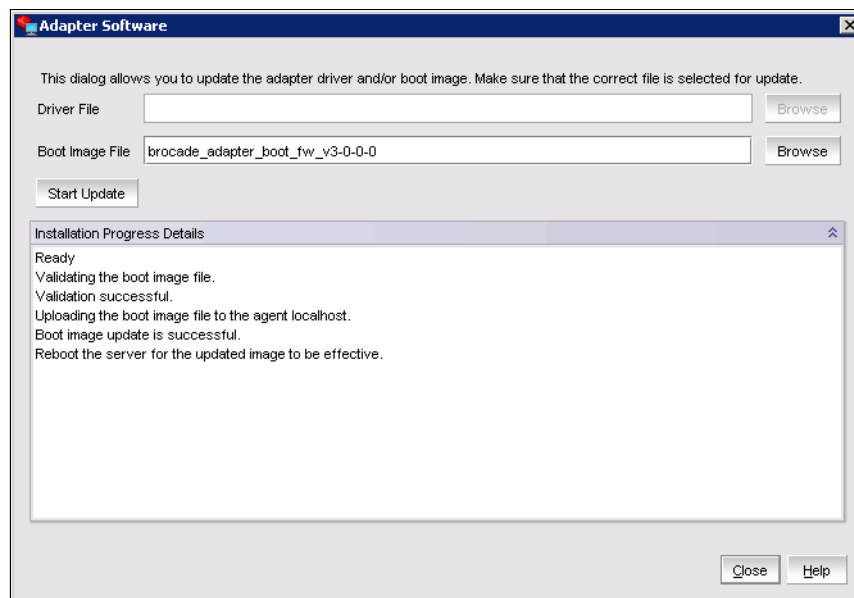

Figure 7-102 Adapter software window
3. In the Adapter Software window (Figure 7-102), browse to the latest Brocade firmware software package, and then click **Start Update**.